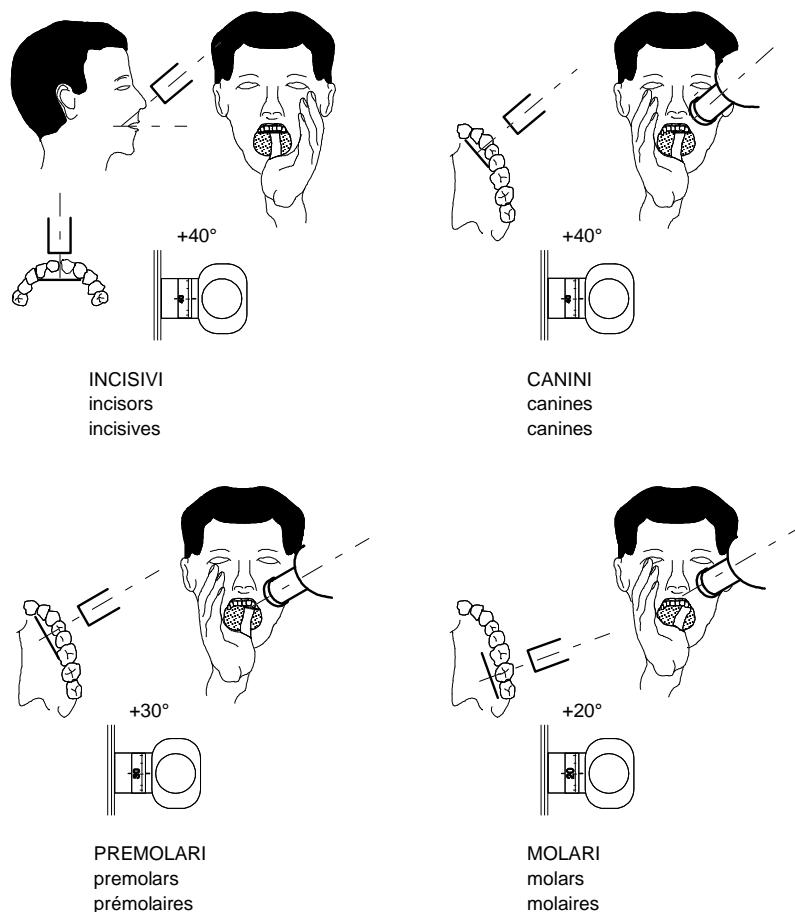
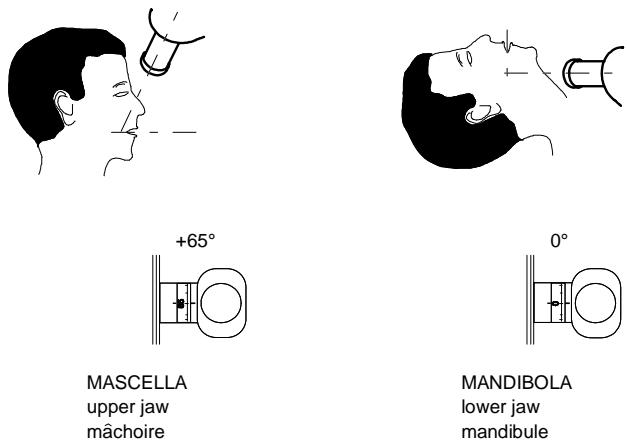
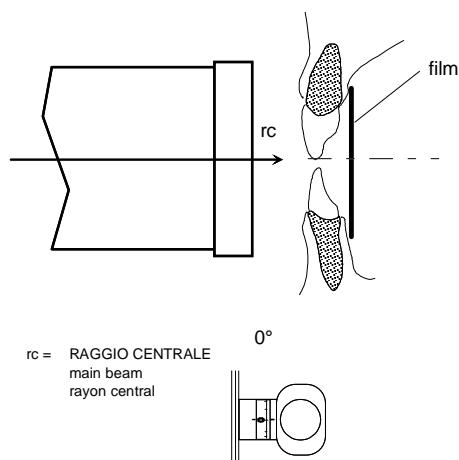

Figure 13
Figure 14
Figure 15
1. Position the tube-head with an angle suitable for the exposure and positioning required (see Figure 12, Figure 13, Figure 14, Figure 15).